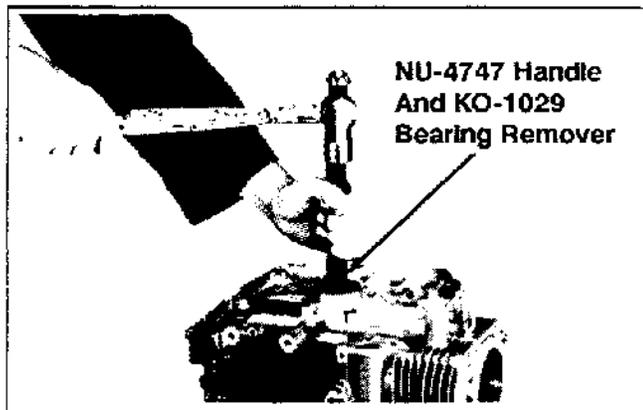

Figure 9-45. Removing Crankshaft Bearing.
2. Remove the bearing from the crankcase using handle #NU-4747 and bearing remover #KO-1029. See Figure 9-45.